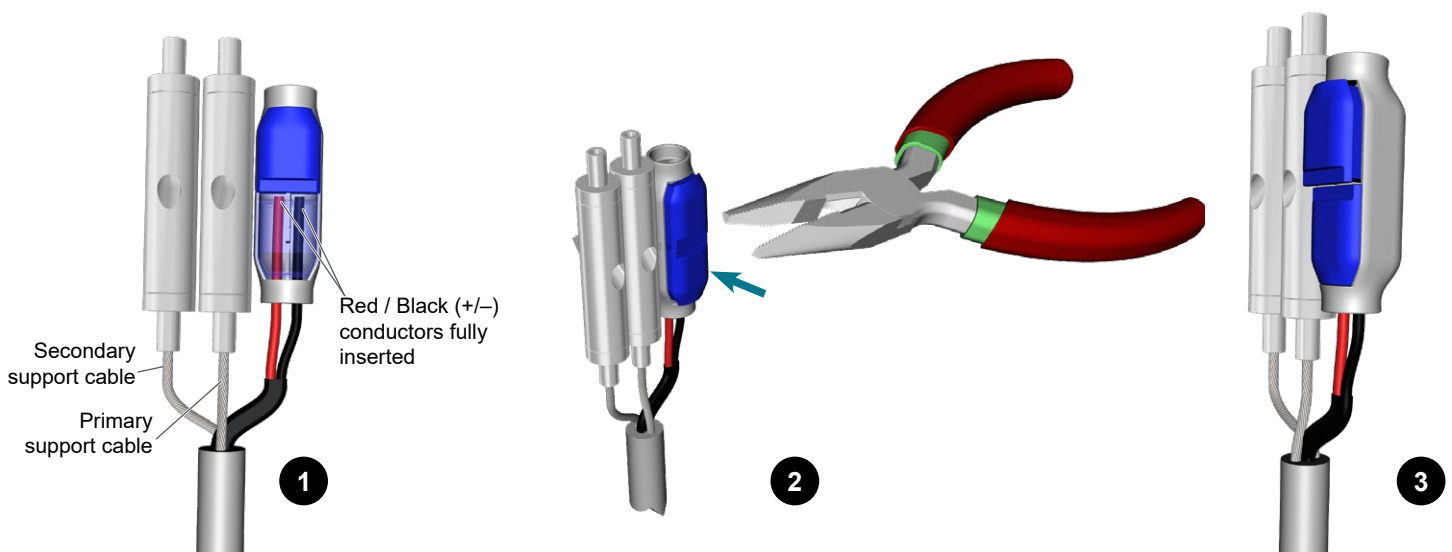

Figure 11. Fully insert conductors into one end (1) and depress the plunger on that end **ONLY** of the CoolSplice connector (2-3)
4. Fully insert the positive (red) and negative (black) conductors into the same end of the CoolSplice™ connector (Figure 11). *The wire ends must touch the end of the compartment in the connector.*